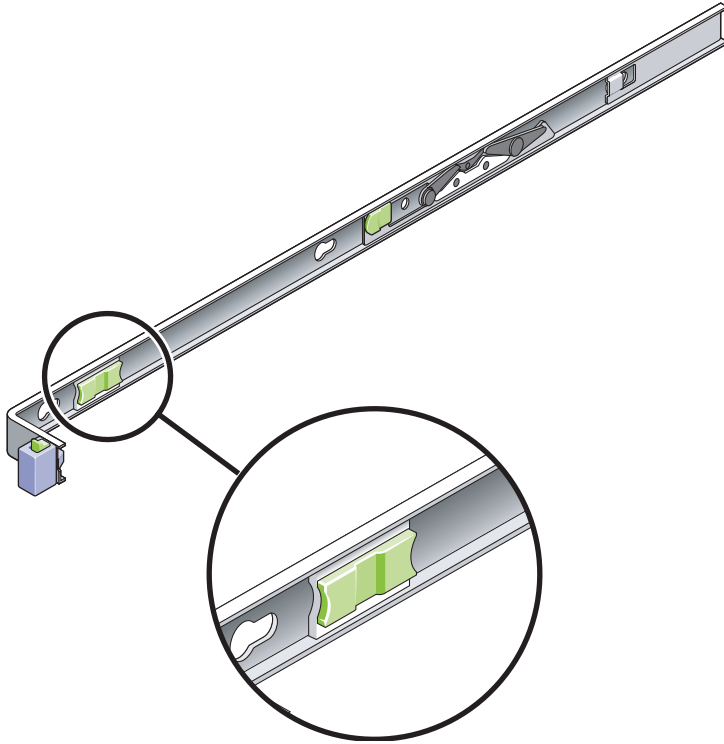

FIGURE 2-27 Slide Rail Release Button
6. Simultaneously unlock both slide rail release buttons (FIGURE 2-27), and push the server completely into the rack.